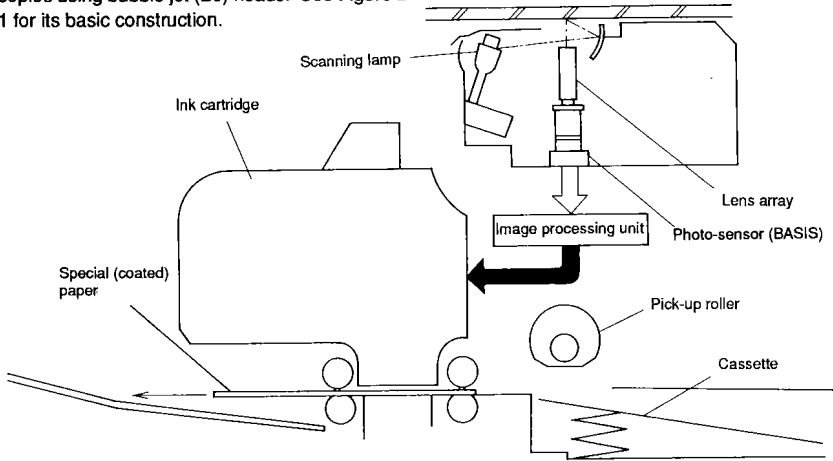

Figure 2-1 Cross Section
The copier is a color copier that generates copies using bubble jet (BJ) heads. See Figure 2-1 for its basic construction.